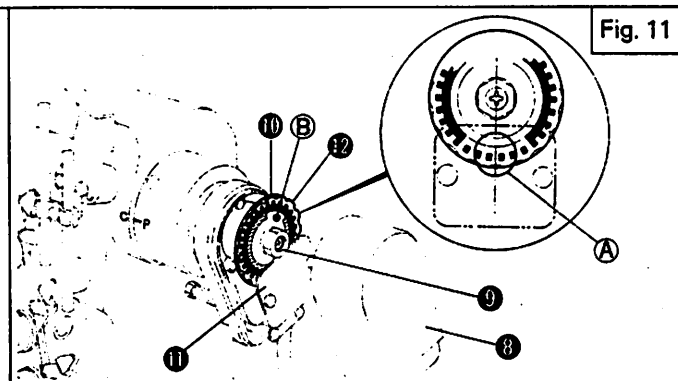

Fig. 11
5. Turn the power switch on. Press the pedal a little and check the direction of rotation of the machine. If the machine runs in reverse, re-insert Power Connector ④ upside down. Turn the power switch off.
6. To set the needle stop position (Fig. 11)